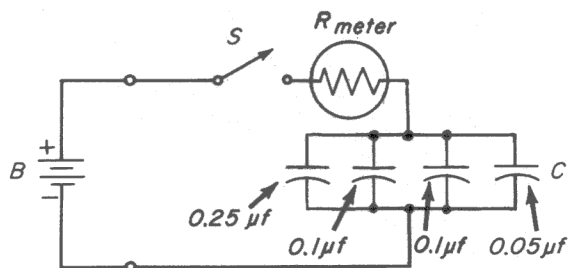
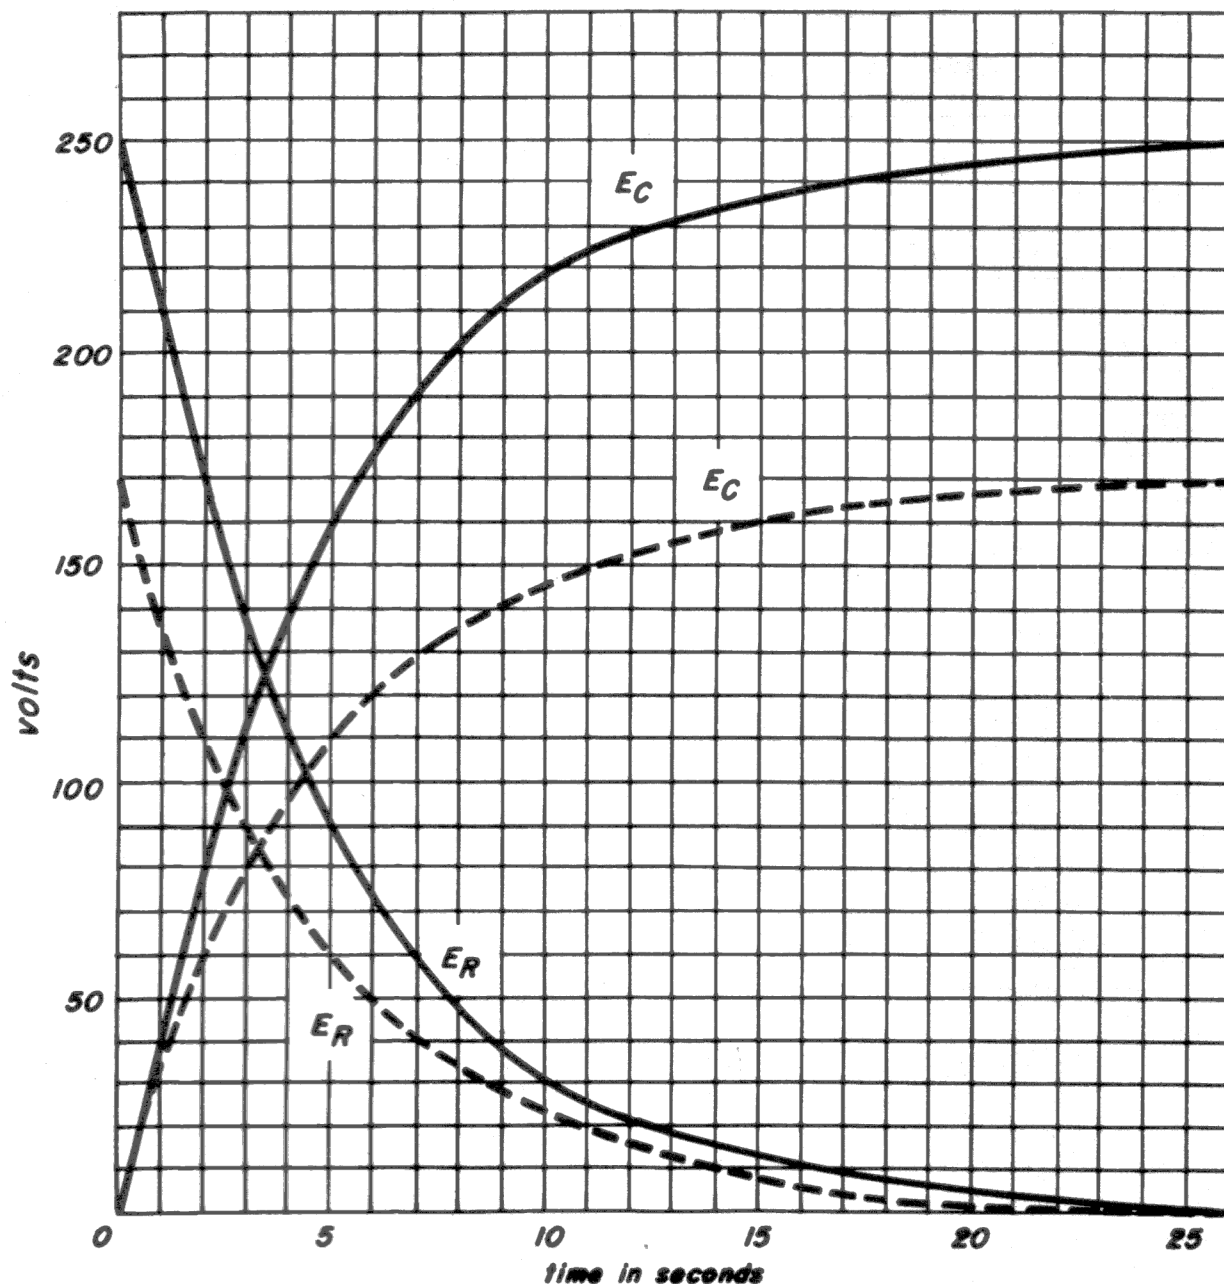

Fig. 18-15
Fig. 18-17
supply, as shown in the schematic of Fig. 18-15.
Step 18. Reverse the meter leads again, so that the connections are returned to their original condition, as in Step 7, or Fig. 18-15.
charges through a resistor. Removing the screwdriver short across the capacitors is similar to closing the switch S in the circuit shown in Fig. 18-15. Tables D and E show typical results for this experiment, based on $B+$ voltages of 250 volts and 170 volts, and Fig. 18-17 shows the curves plotted from these tables. Your plotted curves should be very similar.